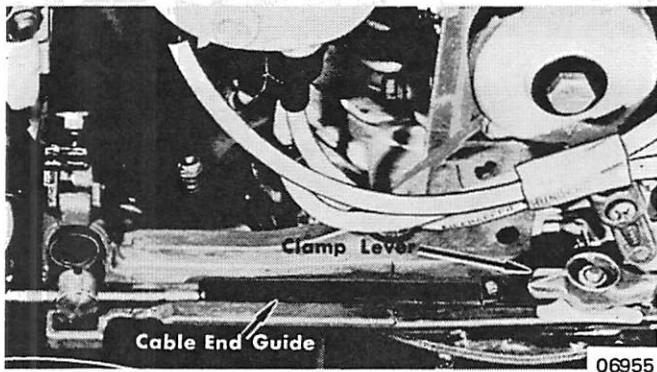

Figure 5. Merc 650 (3-Cyl.) Shift Cable
2. Position clamp lever over cable end guide. (Figure 5) Check that motor is in neutral when control handle is in neutral. If not, adjust shift cable.